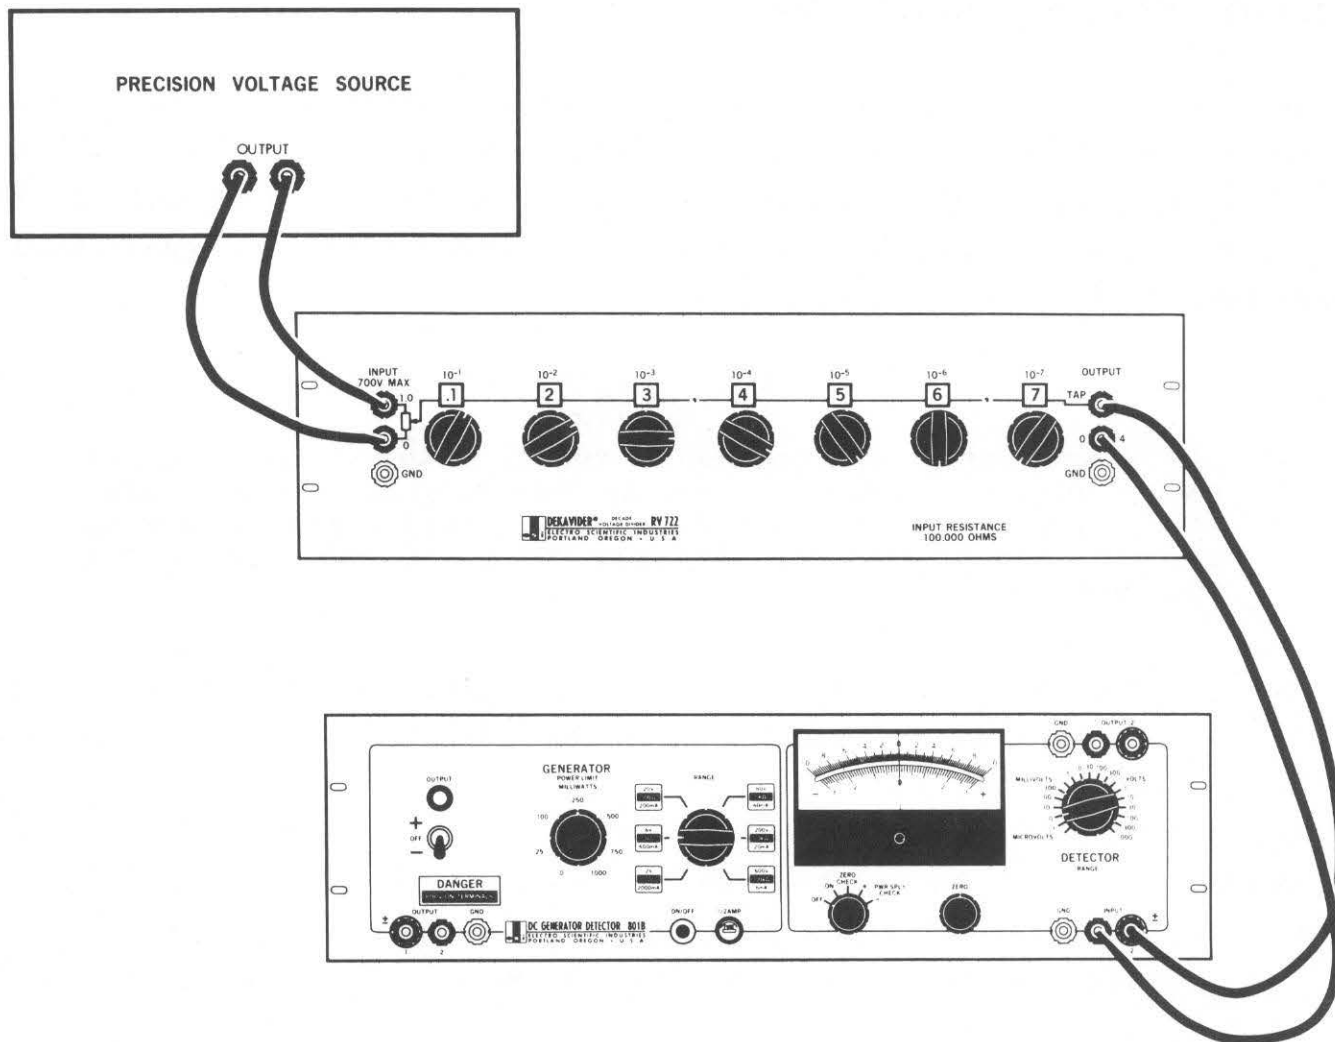

Figure 4.2 Detector Rise Time Test
- Step 1. Set up the test circuit shown in Figure 4-2.